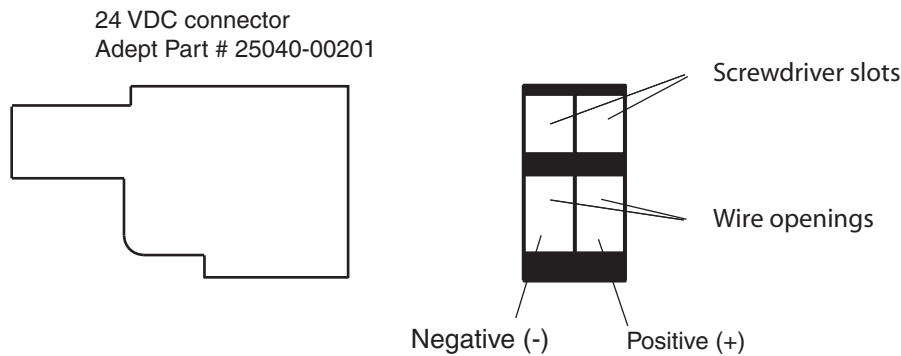

Figure 2-9. 24 V Connector
1. Locate two 24 VDC connectors that are shipped with the controller. See Figure 2-9 on page 28.